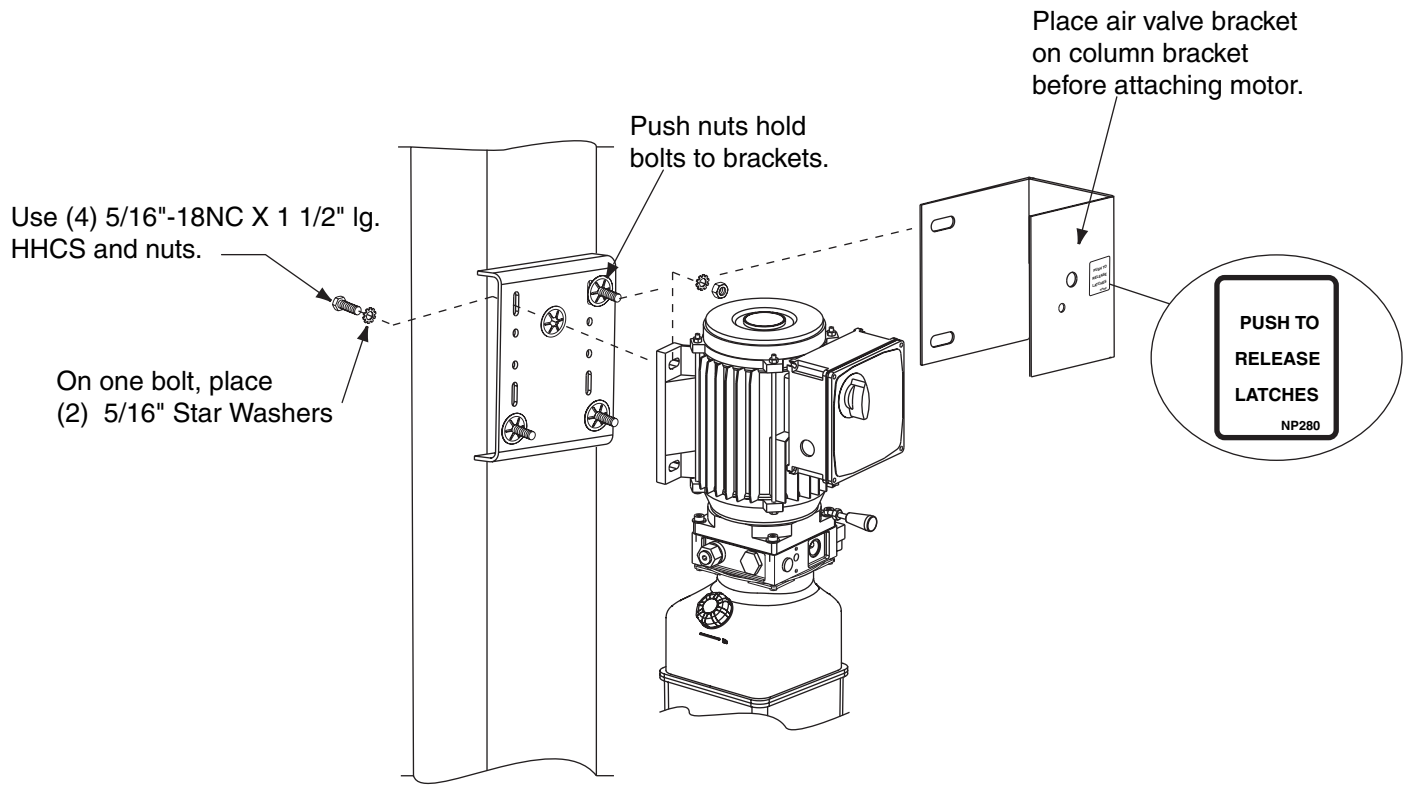

Fig. 16
- A. Align Air Valve Bracket with holes in right side of column bracket, Fig. 16.
- C. Attach enclosed NP280 decal ("PUSH TO RELEASE LATCHES") below button on air valve bracket, Fig. 16.